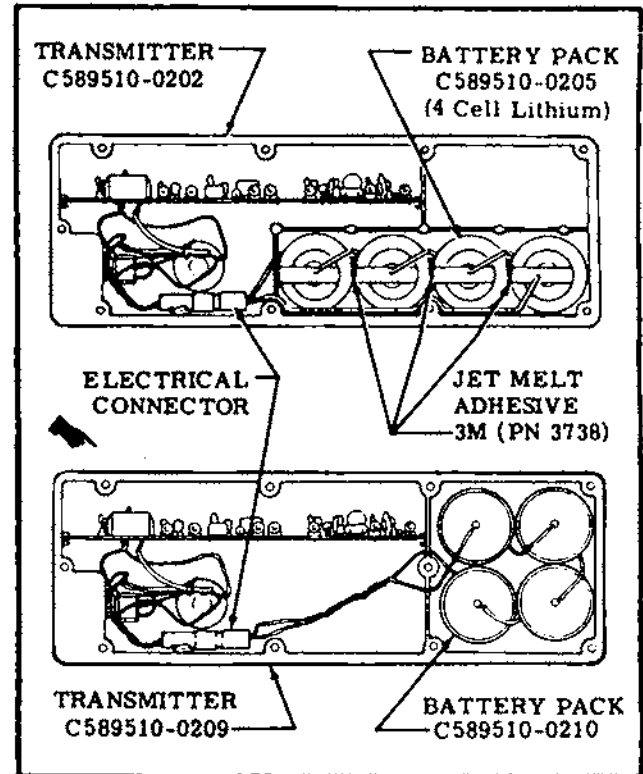

Figure 16-15. Lithium 4 Cell Battery Pack Installations
16-94. REMOVAL AND INSTALLATION OF LITHIUM FOUR (4) CELL BATTERY-PACK. (Refer to figure 16-15.)
- d. Place new battery-pack in the transmitter with four batteries as shown in the case in figure 16-15.
- e. Connect the electrical connector as shown in figure 16-15.